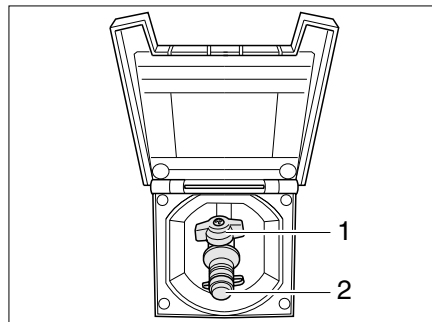

Fig. 242 External gas connection, gas isolator tap closed
The external gas connection (Fig. 242) is located at the right-hand side of the vehicle. In exceptional cases the external gas connection is also located on the left-hand vehicle side or the rear.
- Connect the external gas device to the connection point (Fig. 242,2).
- Open the gas isolator tap (Fig. 242,1).